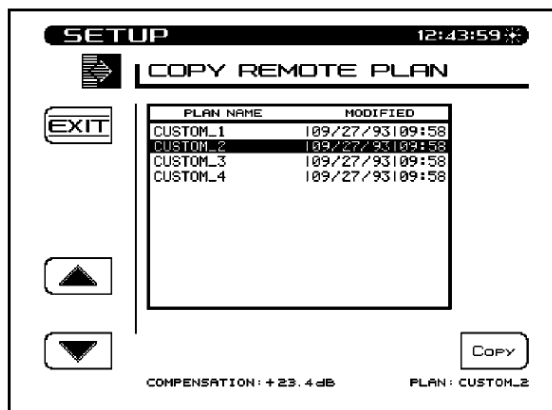

Fig. 14-9 The COPY REMOTE PLAN Screen
- **Copy Remote Plan:** This selection allows you to copy a channel plan from one unit to another (Fig. 14-9).